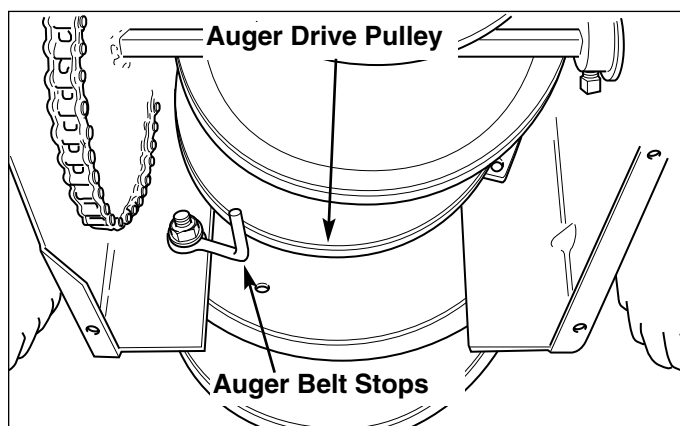

Figure 28. Auger Drive Pulley and Belt Stops
8. Loosen hex screw securing belt stop (Figure 28), and pivot the belt stop away from the pulley to permit removal of belt.